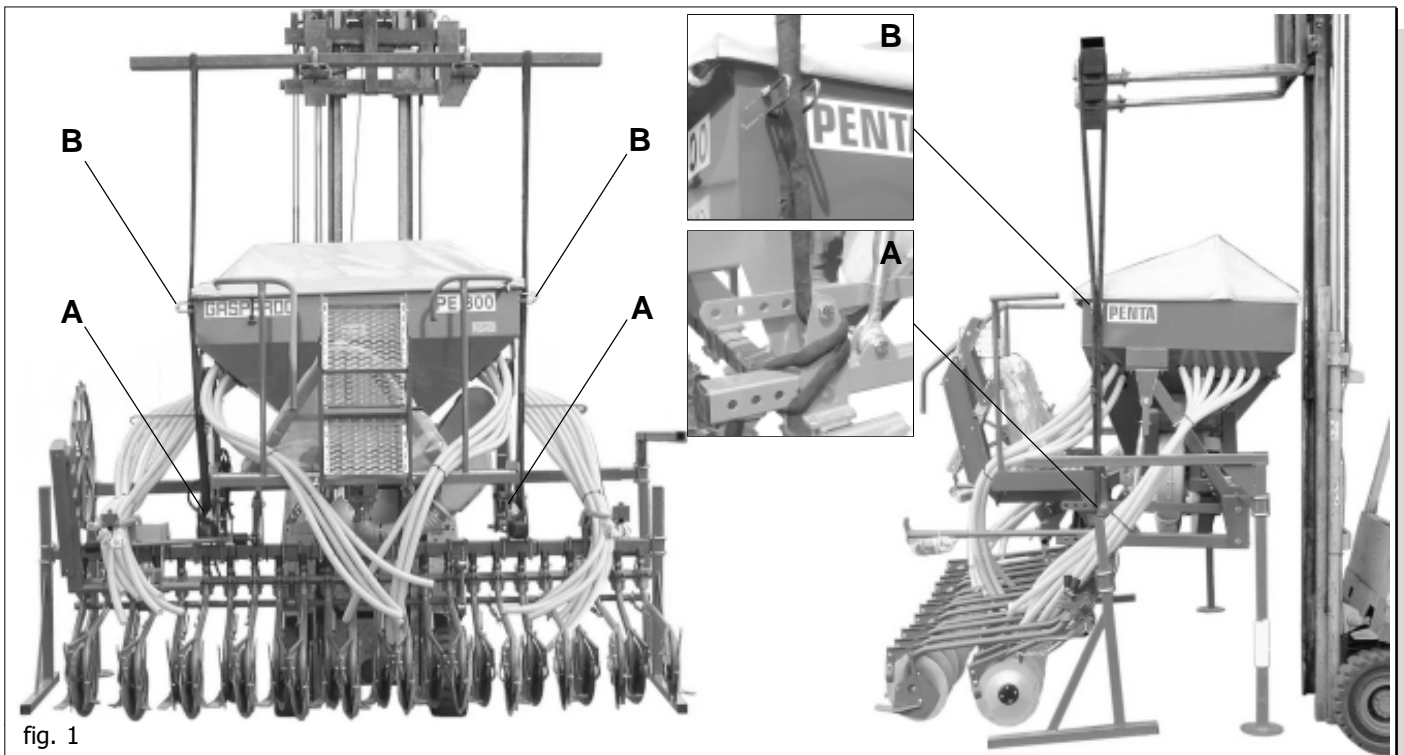

fig. 1
If the machine is handled, it must be lifted by hooking onto the appropriate holes (A) (Fig. 1) with a suitable winch or crane of sufficient capacity. Because of the danger involved, this operation should be carried out by trained and responsible personnel. The mass of the machine is on the identification Plate (8 Fig. 2). Stretch the rope to keep the machine level.